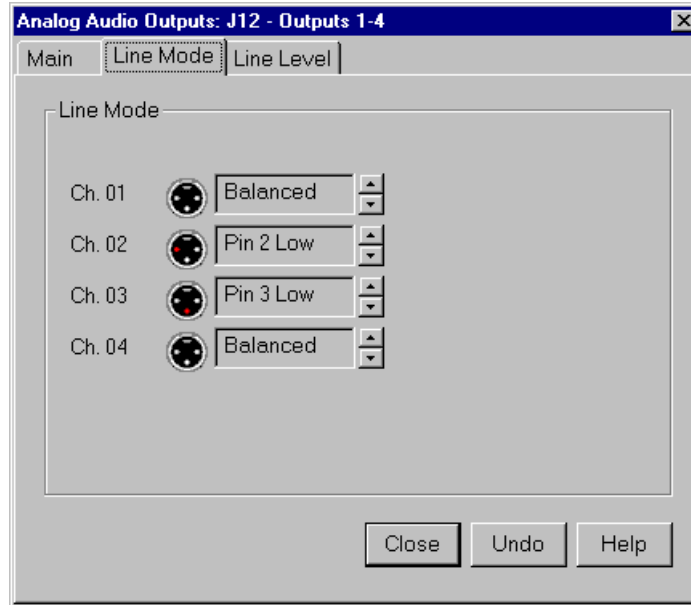

Figure 37. Analog Audio Output dialog box, Line Mode tab
1. In the Analog Audio Output dialog box, click the Line Mode tab (Figure 37).